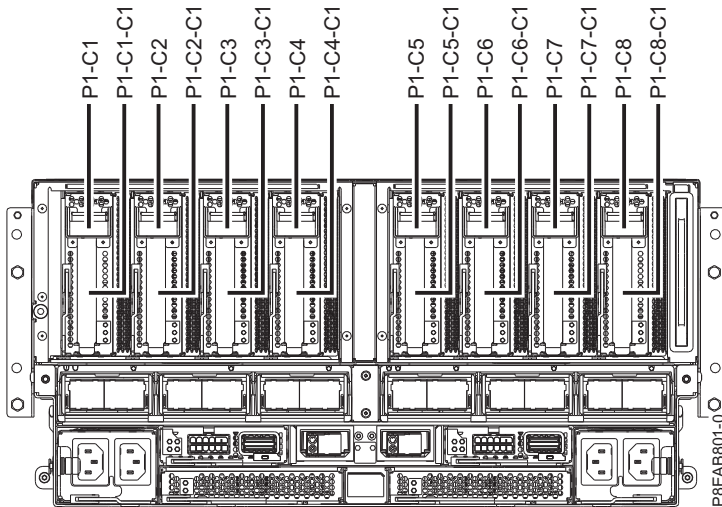

Figure 1. PCIe adapter slot locations in the system
1. Determine the slot in which you want to install a PCIe adapter. The PCIe adapter slots are at the rear of a system. Figure 1 on page 2 shows the PCIe adapter location codes.